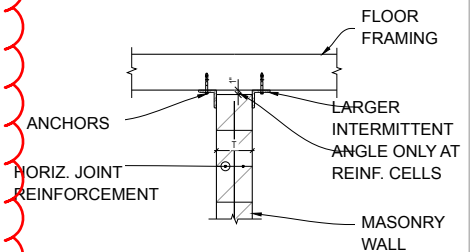

Figure 2: intermittent angles
2. The second option would be to place heavier angle connections at the reinforced cores (when reinforcing is required) - NO TOP-OF-WALL BOND BEAM. See Figure 2.
a bond beam (see Figure 2).